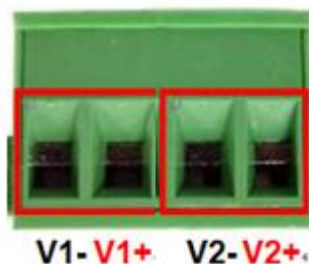

Figure 2.7
1. Insert the positive and negative wires into the V+, V- contacts on the terminal block connector as shown below in *Figure 2.7*.